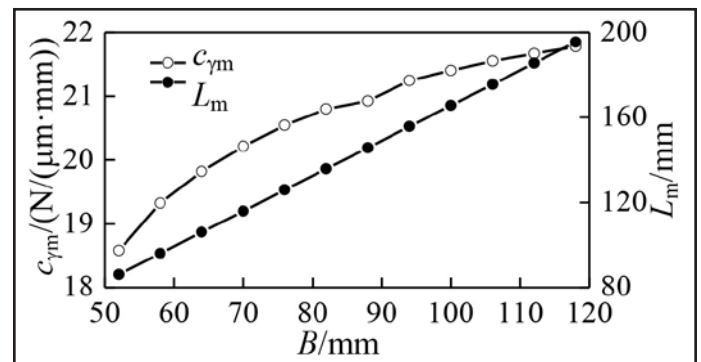

Figure 10 The  $c_{\gamma m}$  and  $L_m$  vs. different face width  $B$ .
**Tooth face width.** Figure 10 shows the effect of tooth face width on the mean value of mesh stiffness  $c_{\gamma m}$  and contact-line length  $L_m$ . The face width  $B$  is varied from 52 mm–118 mm. It is seen that  $c_{\gamma m}$  and  $L_m$  increase in the same trend when the face width  $B$  increases. The increasing values of  $L_m$  and  $c_{\gamma m}$  are 109 mm and 3.19 N/( $\mu\text{m}\cdot\text{mm}$ ), respectively.